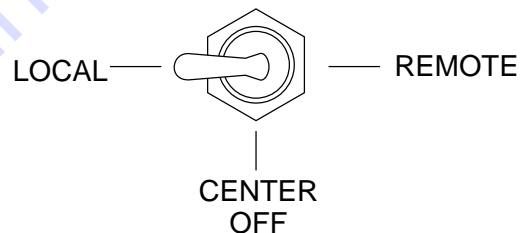

Figure 26. Pumping Control Switch (Local)
1. Place the **pumping control switch** in the **LOCAL** position (Figure 26) for normal pumping operation.